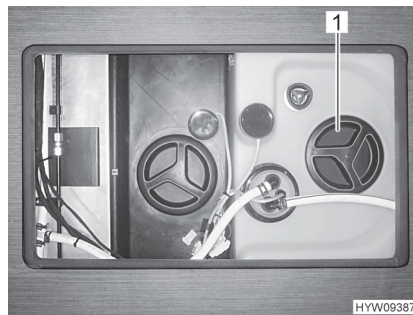

Fig. 208 Cleaning opening (water tank)
- Remove the cap (Fig. 208,1) of the water tank.